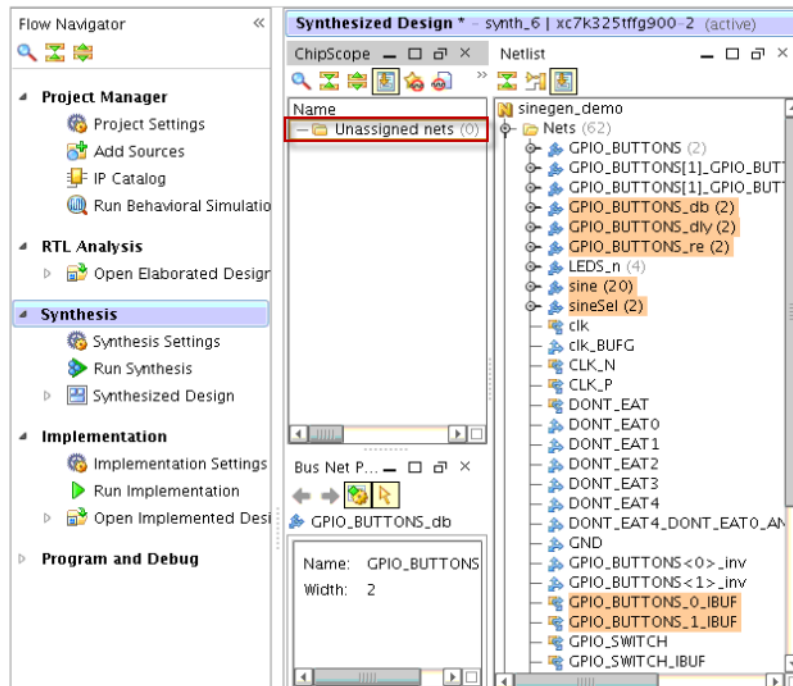

Figure 3: Adding Nets from the Netlist Tab
3. Expand **Nets**. Select the following nets for debugging (also shown in Figure 3):
The steps above are illustrated in Figure 3, page 11.